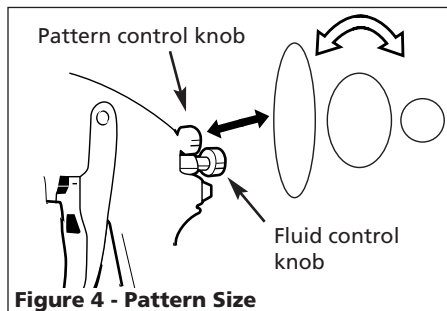

Figure 4 - Pattern Size
2. Set pattern size to desired shape. For full pattern, open pattern control knob by turning counterclockwise. For a round pattern, turn pattern control knob clockwise (See Figure 4).
3. Turn fluid control knob fully clockwise until closed (See Figure 4).
- 5. Unscrew packing nuts and replace the packing **ONLY** if a leak will not stop when the nut is tightened (See Figure 4). Do not over-tighten a packing nut because this will restrict movement of the needle.